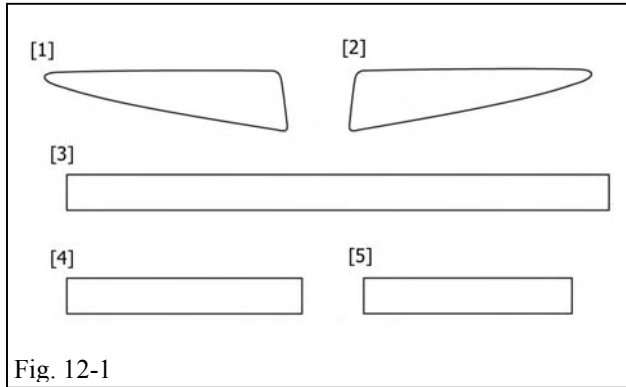

Fig. 12-1
- (a) Installation parts (Fig. 12-1):
- (1) Adhesive tape RH
- (2) Adhesive tape LH
- (3) Adhesive tape A [8 x 994 mm t 1.6]
- (4) Adhesive tape B [8 x 220 mm t 1.6] x 2
- (5) Adhesive tape C [8 x 208 mm t 1.6] x 2